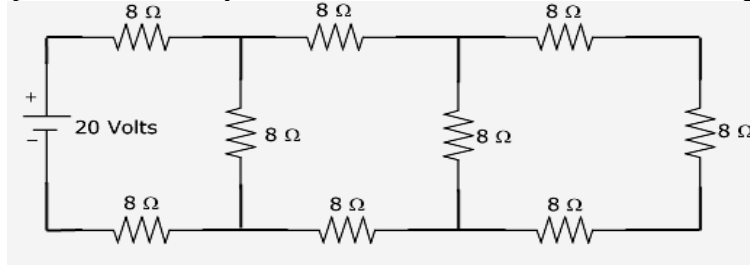

Figure 2
2. a) Calculate the power delivered by the source in the circuit as shown in the Figure 2. [7M]